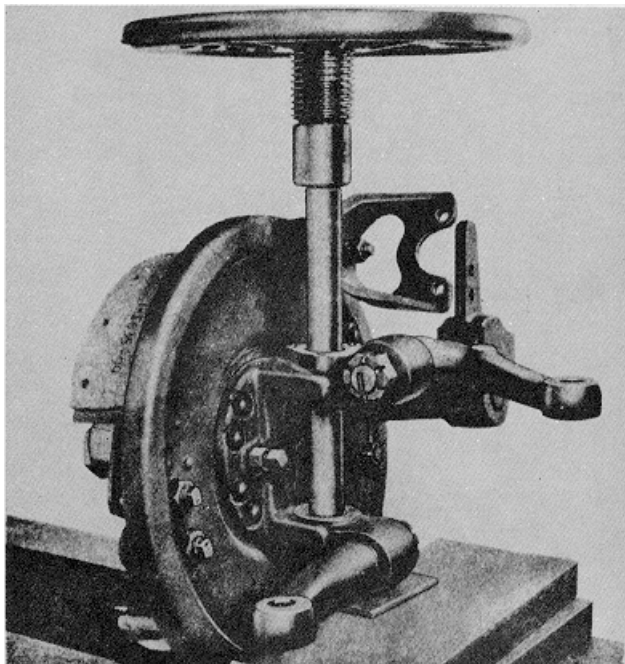

Figure 9D-5. Bushing Removal
16. Two sets of reamers, shown in Figure 9D-7, are designed to permit line reaming of the bushings without removing the dust shields. Reamers "Types 1 and 1A" comprise one set while the second set, "Type 2", consists of a reamer and pilot.